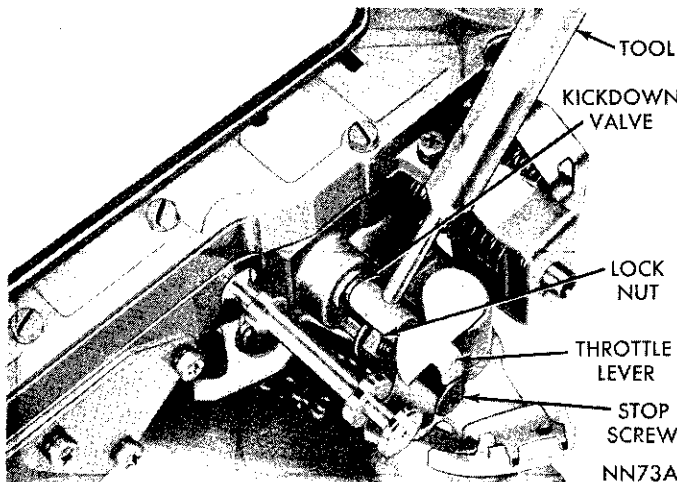

Fig. 16—Throttle Pressure Adjustment
- (1) Remove valve body assembly from transmission to perform adjustment.
- (2) Loosen throttle lever stop screw lock nut and back off approximately five turns (Fig. 16).
- (3) Insert gauge pin of Tool C-3763 between the throttle lever cam and kickdown valve.
- (4) By pushing in on the tool, compress kickdown valve against its spring so throttle valve is completely bottomed inside the valve body.
- (5) As force is being exerted to compress spring, tighten throttle lever stop screw finger tight against throttle lever tang with throttle lever cam touching the tool and the throttle valve bottomed. **Be sure adjustment is made with spring fully compressed and valve bottomed in the valve body.**
- (6) Remove tool and tighten stop screw lock nut securely.